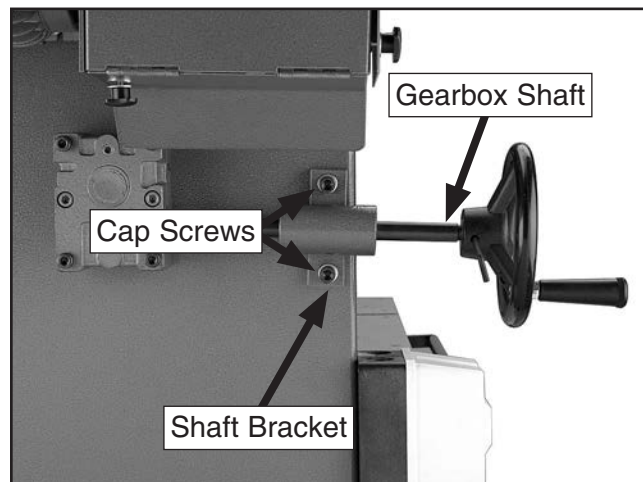

Figure 23. Gearbox shaft.
18. Remove the gearbox shaft bracket by unthreading the (2) cap screws, sliding it over the shaft, then attaching it with the removed cap screws (**Figure 23**).